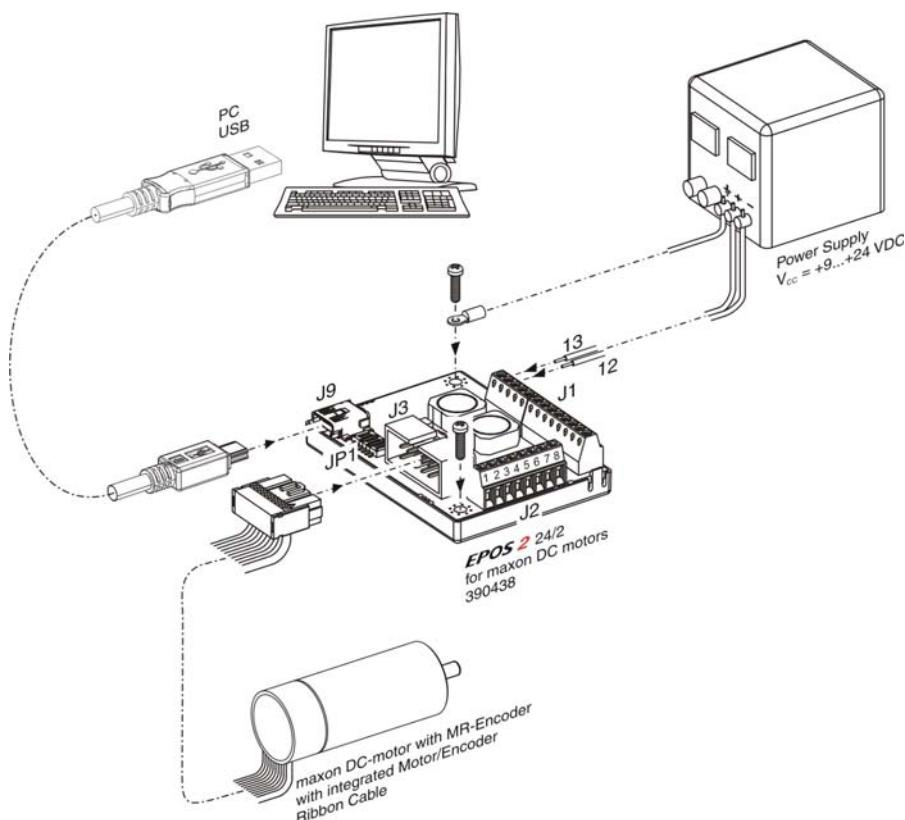

Figure 3-2 Minimum Wiring: maxon DC motor (integrated Motor/Encoder Ribbon Cable)
- 2) Connect maxon cable assemblies (→Table 3-4 and Figure 3-2).